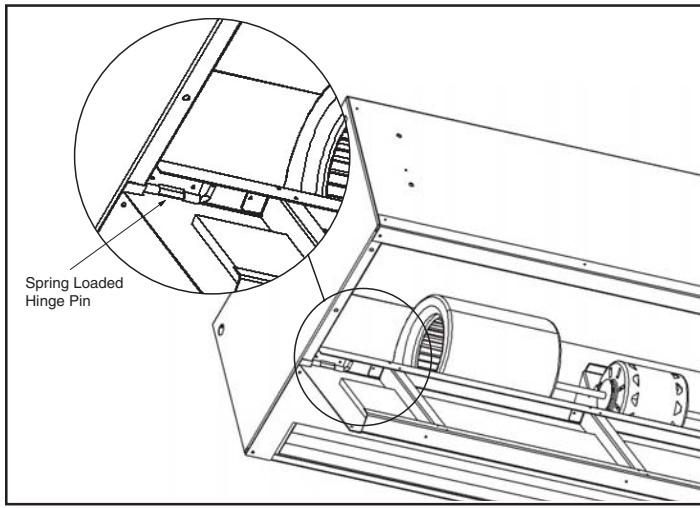

FIGURE 3
- Remove the intake screen by grasping both sides and pressing in on the spring loaded hinge pins and set aside. **See FIGURE 3**
- B. Remove the intake screen by grasping both sides and pressing in on the spring loaded hinge pins and set aside. **See FIGURE 3**
4. Remove the intake screen by grasping both sides and pressing in on the spring loaded hinge pins and set aside. **See FIGURE 3**
3. Remove the intake screen by grasping both sides and pressing in on the spring loaded hinge pins and set aside. **See FIGURE 3**